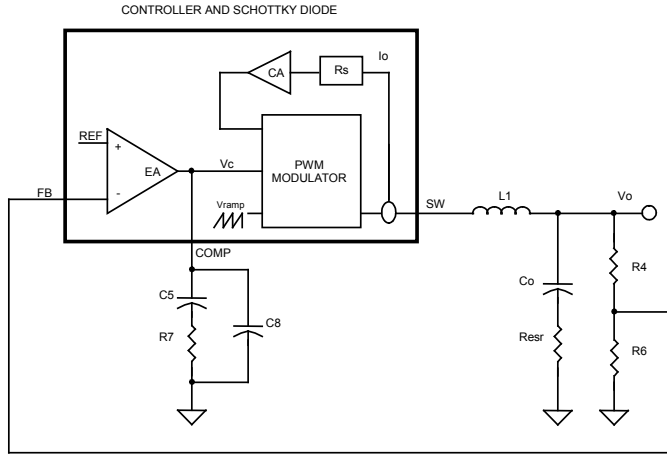

Figure 7. Block diagram of control loops
The block diagram in Figure 7 shows the control loops of a buck converter with the SC4524A. The inner loop (current loop) consists of a current sensing resistor ($R_s=6.1m\Omega$) and a current amplifier (CA) with gain ($G_{CA}=28$). The outer loop (voltage loop) consists of an error amplifier (EA), a PWM modulator, COMP, and a LC filter.
For a converter with switching frequency F_{SW} output inductance L_1 , output capacitance C_o and loading R , the control (V_c) to output (V_o) transfer function in Figure 7 is given by: